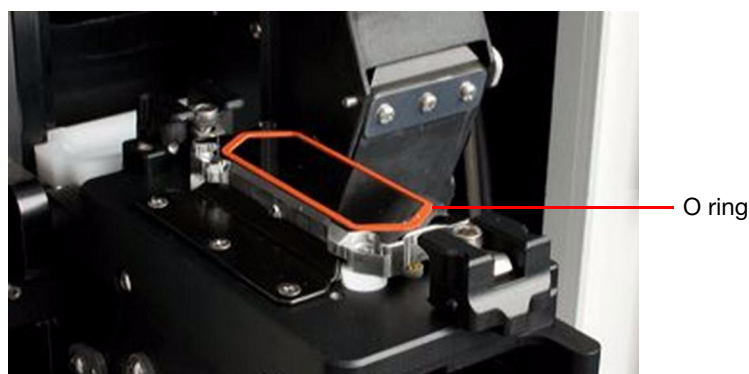

Figure 21 O-ring installed on flowcell.
6. Inspect the O-ring and reseal it if necessary (see Figure 21; for details, see “Install the SOLiD™ flowcell O-ring” on page 99). Check the O-ring for cuts and abrasions. If any abnormalities are observed, replace it. Inspect the O-ring grooves for debris or contamination and clean with water as needed.